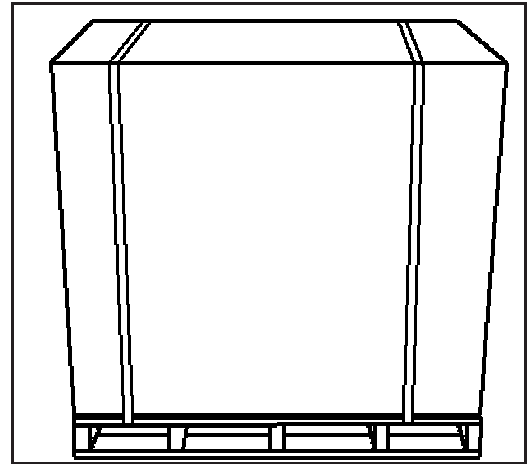

Figure 1
- 1-1** Use the box knife to cut and remove the plastic banding straps from around the pallet and carton (see Figure 1).